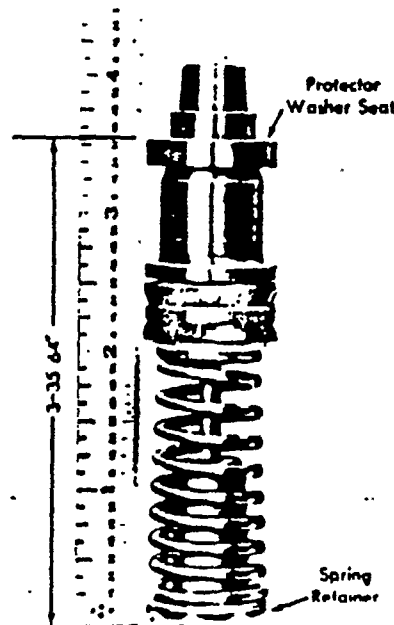

Fig. 40 Secondary Piston Spring Adjustment.
5. Tighten spring adjusting screw until measurement from end of spring retainer to surface against which protector washer seats is $3-35/64$ " as shown in fig. 40. To measure this distance accurately, place piston on a flat surface with spring retainer down, and using a steel scale graduated into sixty-fourths of an inch, measure upward from end of the retainer.